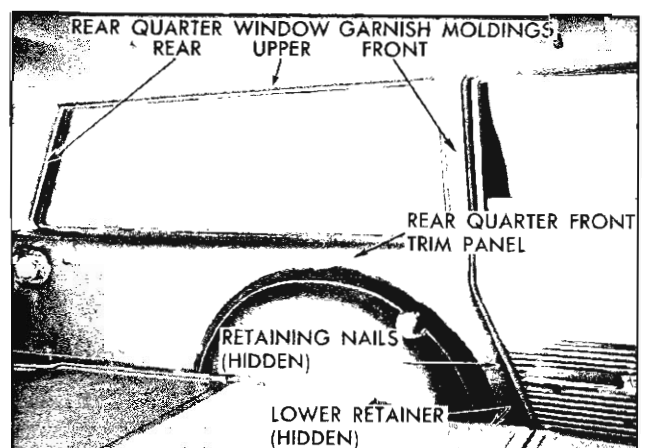

Fig. 75—Quarter Trim Assembly—Left Side
6. Lift panel upwards to disengage from quarter inner panel, and remove assembly from body (fig. 75).
3. Lift panel slightly upward to disengage from quarter inner panel and rearward to disengage from rearward section of rear quarter front trim panel (fig. 75).